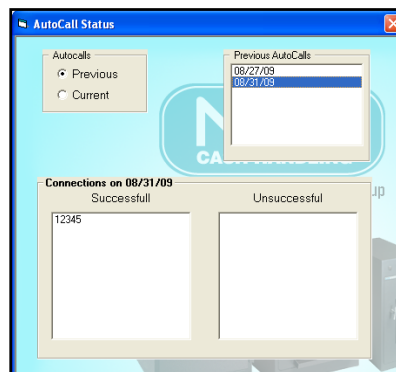

Fig. 9.2
- 2) To check the previous status of a location, first select the **Previous** option and then select the date of the Auto Call(s) you want to check. A list of all the Auto Calls that were attempted on the selected date will be displayed (Fig. 9.2). If the safe called in without any issues, its serial number will be displayed under the **Successful** column. If the safe did not call in as scheduled, its serial number will be displayed in the **Unsuccessful** column.